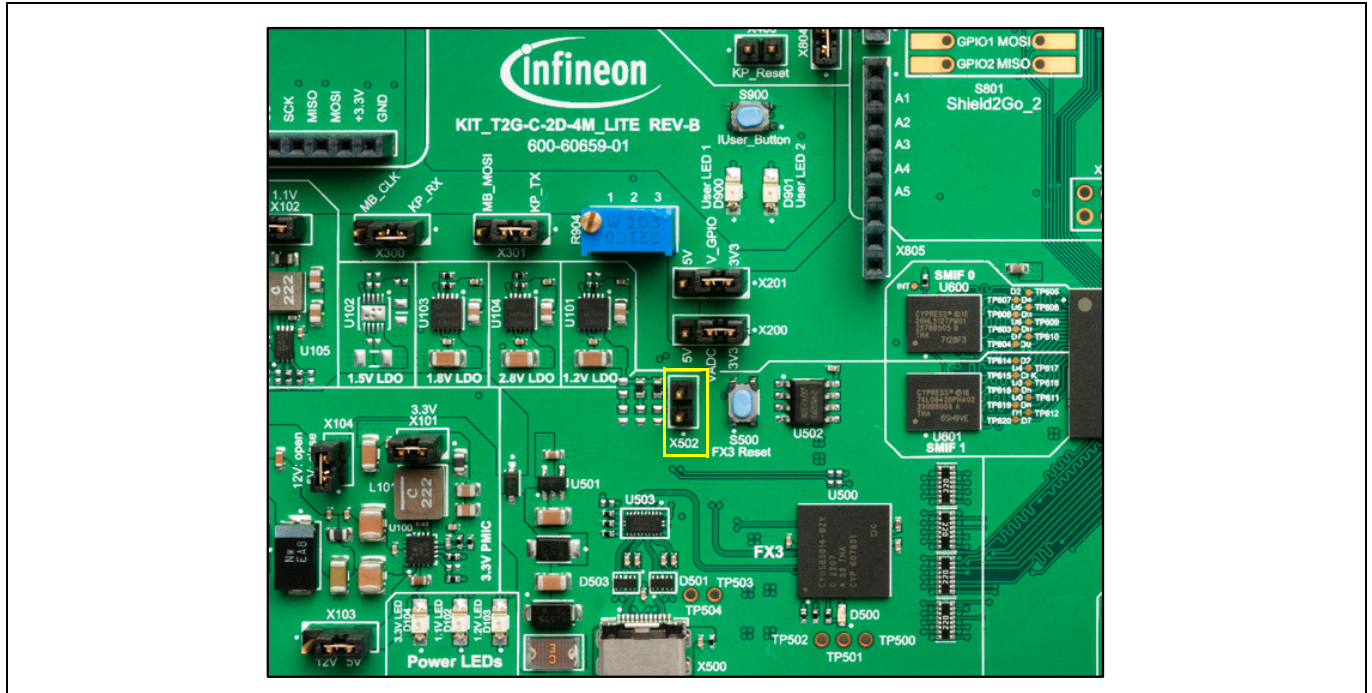

Figure 10 Checking FX3 bootloader jumper on the kit
1. First, ensure that jumper X502 (highlighted in the yellow box in Figure 10) is not shorted. If it is shorted, then remove that jumper, and disconnect and reconnect the power supply.